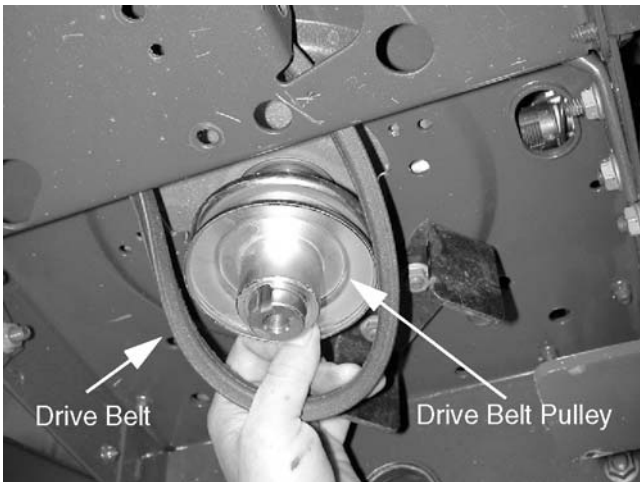

Figure 11-15
9. Slide the drive belt pulley off the bottom of the crankshaft. See Figure 11-15.